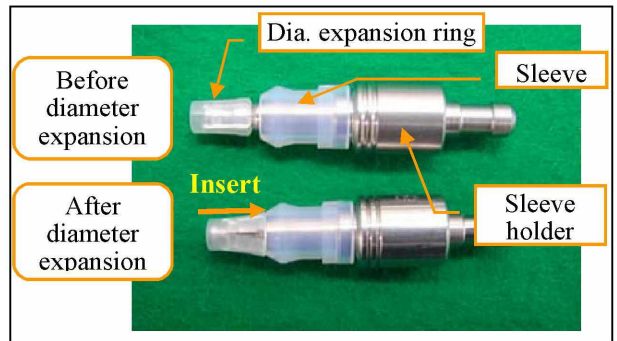

Fig.23 - Setting the sleeve
- Install to insertion tool JT-C3 the sleeve holder and then the sleeve as shown in Fig.23 for the state before the diameter has been expanded.
- After the sleeve has been set, push the diameter expansion ring toward the sleeve until it clicks (see Fig.23 for the state after the diameter has been expanded and Table for the applicable parts).